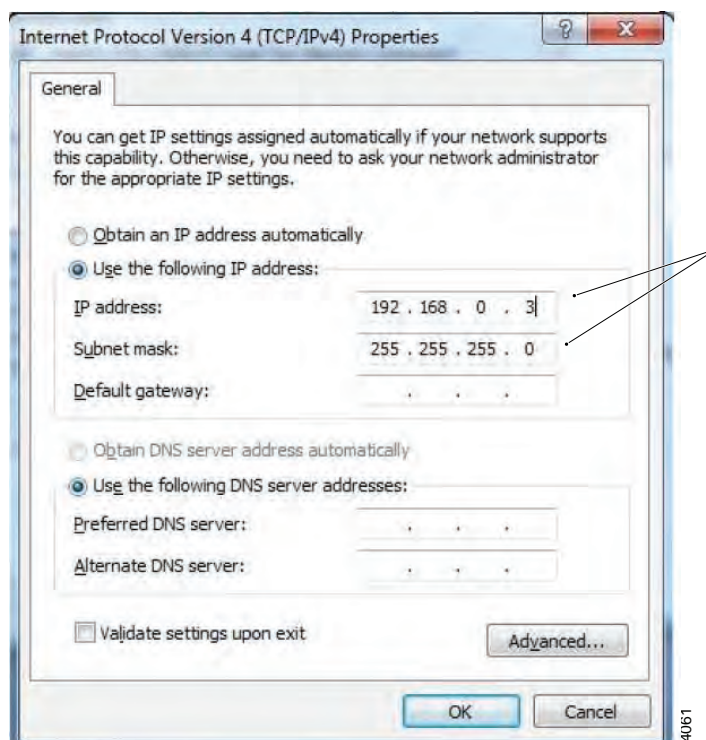

Fig. 5-4
5. Enter settings for the IP address as in Fig. 5-4 . Press OK.